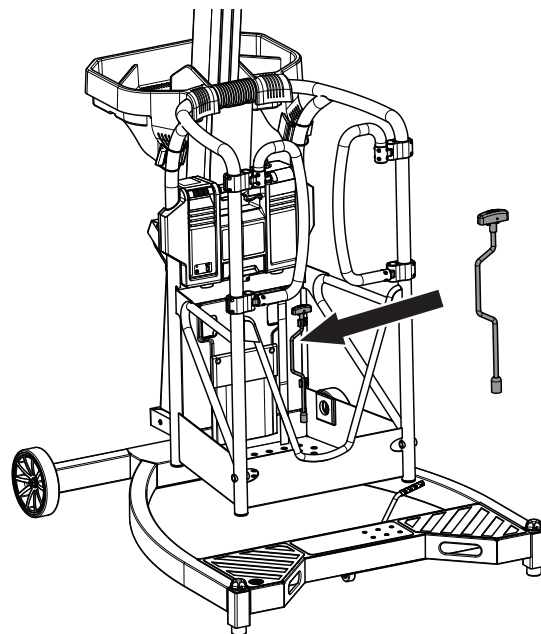

Figure 2-8. Location of manual descent crank
- 8. Manual Descent Crank** - Ensure it is present and securely attached (Figure 2-8.).